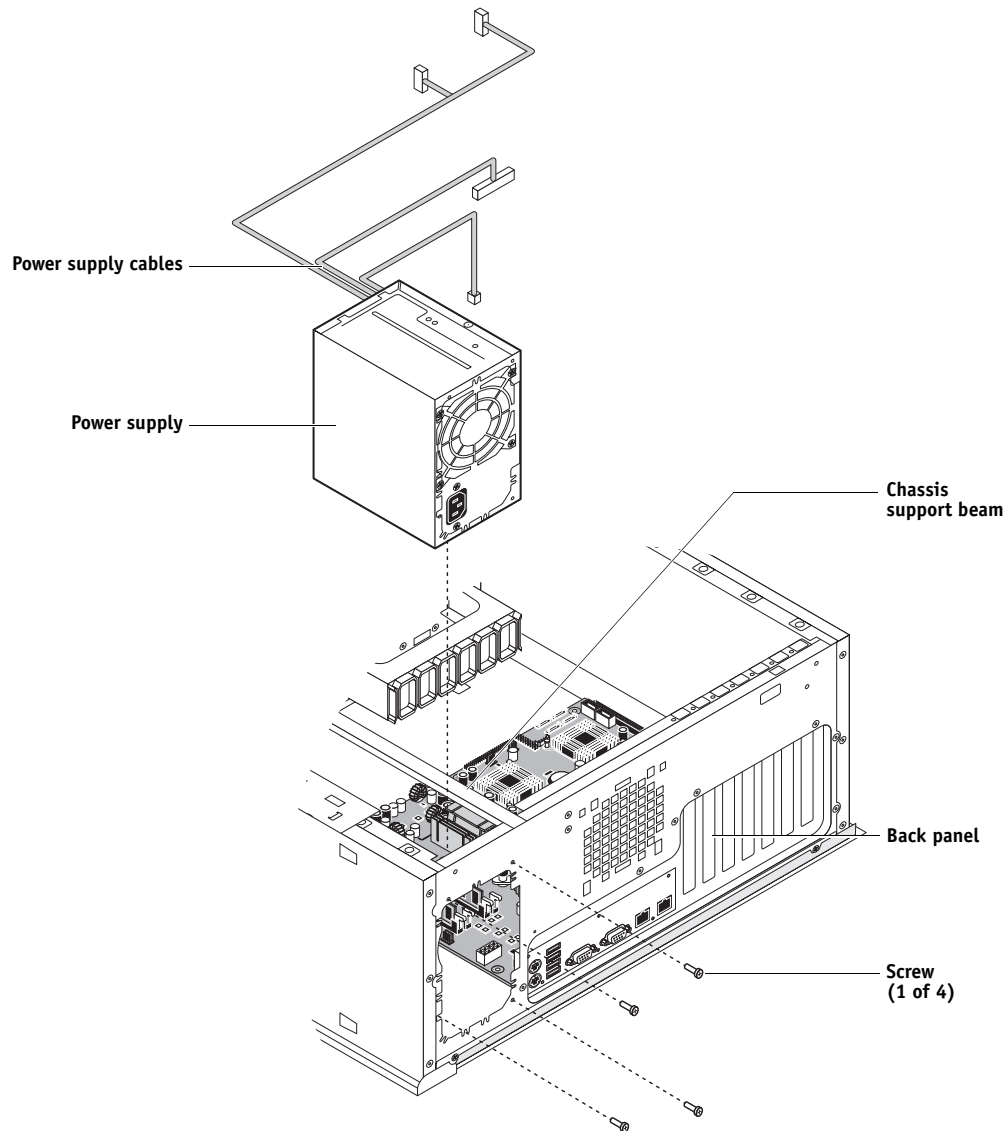

FIGURE 29: Removing/replacing the power supply
8. **Remove four of the five screws that attach the power supply to the back of the chassis (see Figure 29 on page 85).**
2. Attach the power supply to the chassis with the five screws that you removed earlier (see Figure 29 on page 85).
8. Locate the reusable tie-wrap that you removed earlier and use it to attach the loose section of the power cable to the chassis support beam (see Figure 29 on page 85).